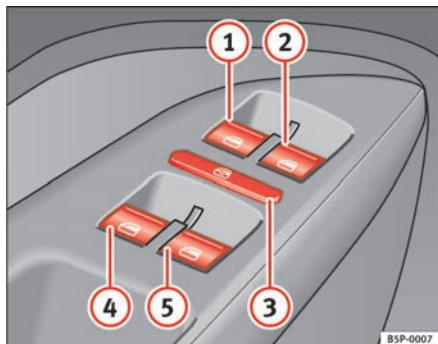

Fig. 68 Detail of driver door: controls for the front and rear windows
The buttons ⇒ page 104, fig. 68 ① and ② have two levels for opening the window and two for closing it. This makes it easier to open and close windows to the desired position.